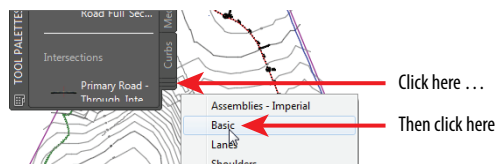

FIGURE 9.6 Selecting the Basic tool palette
7. Click the stack of tabs at the bottom of the **Tool Palettes** window, and then click **Basic**, as shown in Figure 9.6.